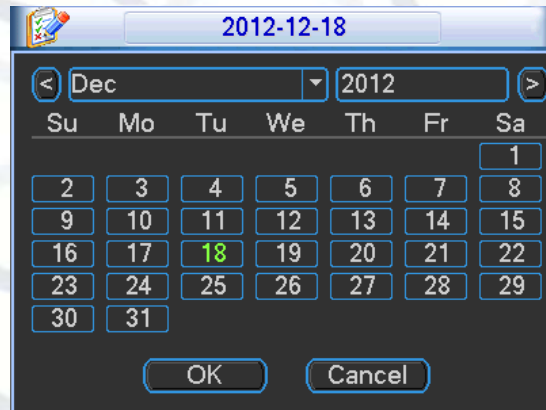

Figure 4-22
- **Holiday setting:** Click this to see the interface shown as in Figure 4-22. Here you can set the holiday date. Please go to the Holidays Period interface to set the holiday date record setup.